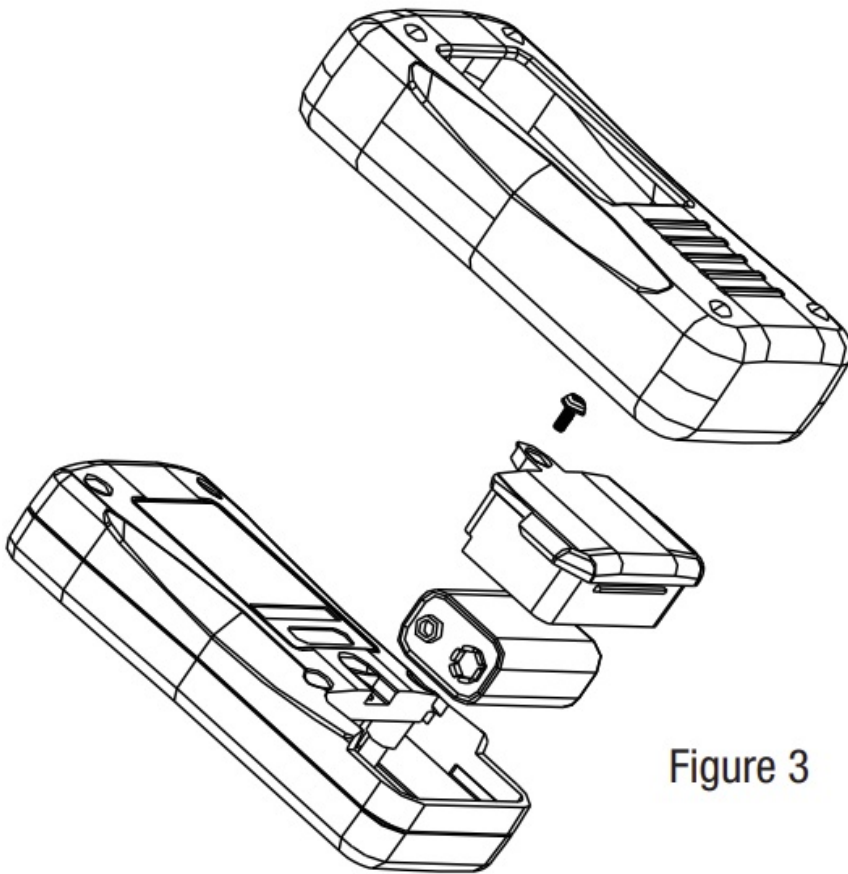

Figure 3
5. Replace the battery as shown in Figure 3.